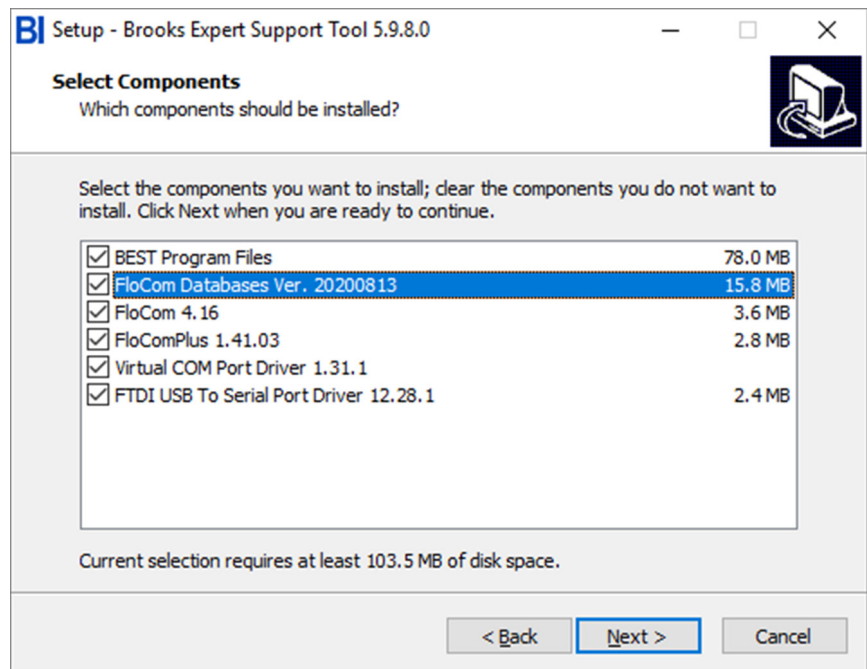

Figure 2-5 Installer Software Component Menu
For users who require a specific version of the FloCom database component, during the installation, the user will be presented with a software component selection menu (See Figure 2-5). Uncheck the item FloCom Databases to preserve the currently installed version and not install the version from the installer.
**Virtual COM Port Driver:** To use BEST with the VDM300 device it is necessary to install the virtual COM port (serial port/USB) driver. This driver is normally installed via the BEST installer. Make sure that the Virtual COM Port Driver check box is checked (see Figure 2-5).